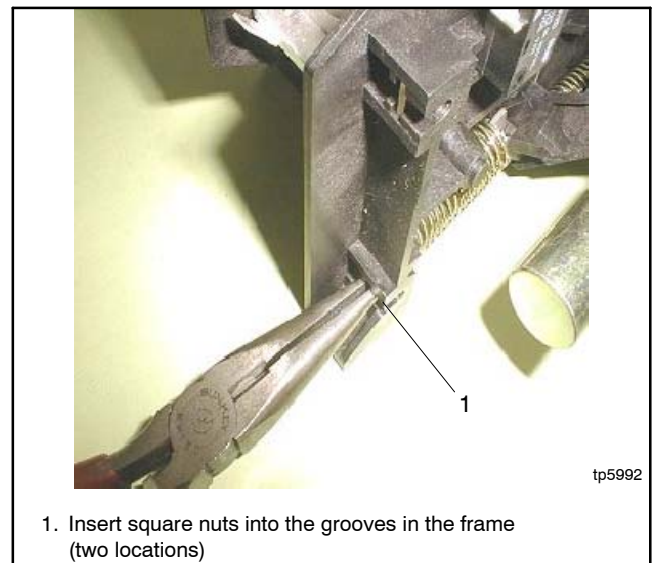

Figure 7-11 Reinstalling the Coil Assembly Nuts
1. Insert the two square nuts into the grooves on the frame. See Figure 7-11.